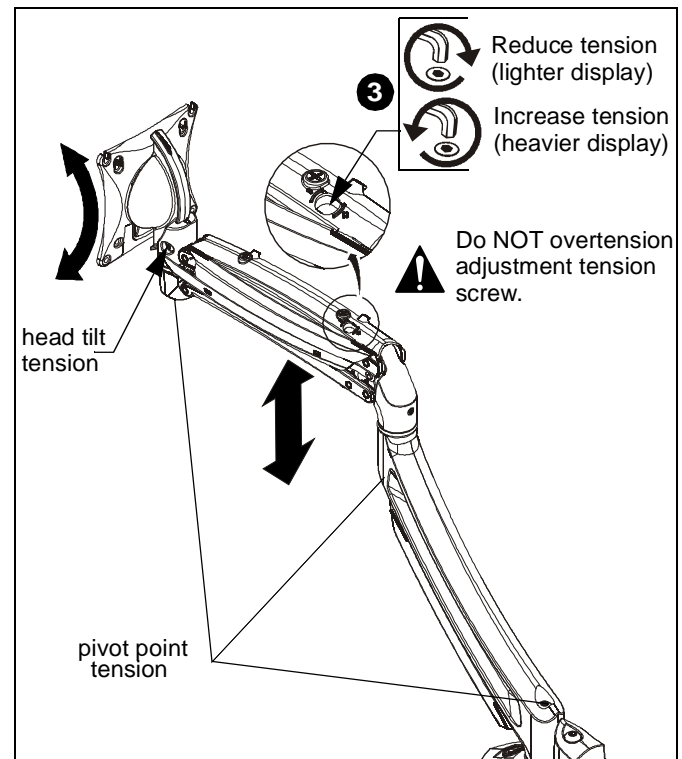

Figure 12
1. Adjust head tilt to desired tilt position. (See Figure 12)
2. Adjust head tilt tension screw to change the adjustment tension. (See Figure 12)
1. Adjust arm height to desired level. (See Figure 12)
3. Use 1/8" hex key (J) to adjust height-adjustment tension screw to change adjustment tension. (See Figure 12)
1. Adjust pivot position as desired. (See Figure 12)
2. Use 3/16" hex key (H) to adjust pivot point tension screws to change pivot adjustment tension. (See Figure 12)